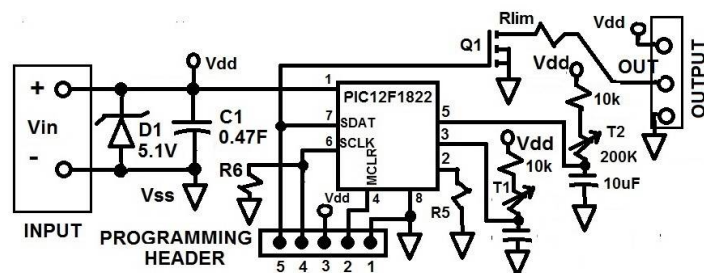

Figure 1 – Electrical Schematic
Although the ACC-02 is acceptable for use with a variety of power input sources, it was particularly developed to accumulate thermoelectric (TE) derived power. A thermoelectric generator (often called a Peltier module) is constructed from multiple n-type and p-type thermoelements. It is deployed by placing it between a heat source and a heat sink. The open circuit (unloaded) voltage that is produced will be proportional to the temperature gradient across the device. When the thermal gradient is small, the magnitude of the generated voltage may be too low to power target sensors and actuators. In these cases, a voltage boost circuit may be used, such as the VB family of voltage boost devices from TXL Group which can convert power at input voltages as low as 40 mV to more usable levels such as 3.3 or 5.0 volts. The ACC-02 can accumulate energy at the higher voltage and release it according to a programmed schedule. A circuit schematic of the ACC-02 is shown in Figure 1.
There are two inputs (V_{dd} and Common) and three outputs (V_{dd}, OUT and Common). So, the board actually only has three unique connections since V_{dd} and Common simply pass through from input to output as noted in the schematic of Figure 1. In most applications, the outputs of interest will be between V_{dd} and OUT. Relative to Common, the output labeled “OUT” will either be open circuit or tied to common through a limiting resistor, R_{lim} (which has a default value of 0 Ω). **NOTE: The pin labeled “OUT” is a sink pin.** So it only sinks current. If active high sourcing is required, up to 25 mA can be taken from Pin 5 (control) of the programming header.